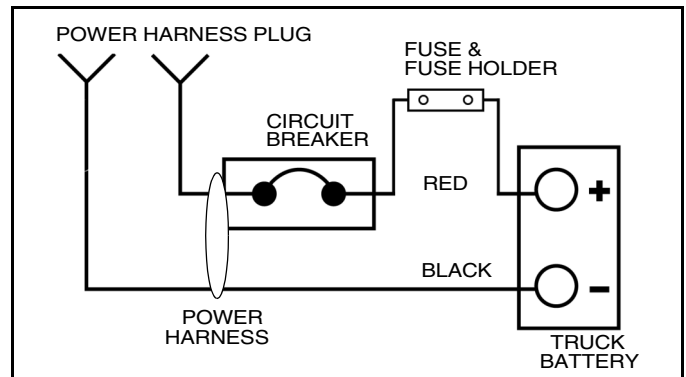

Figure 1-2
2. Mount the fuse holder (if included) near the battery using (2) #10 x 1" self-tapping screws. (See Figure 1-2).